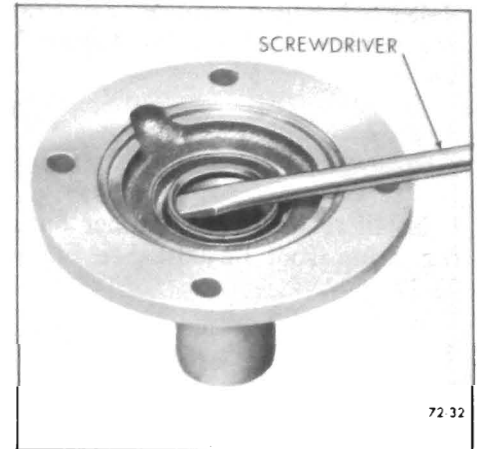

Figure 72-32 - Removing Front Bearing Retainer Seal
1. Using screwdriver remove seal. See Figure 72-32.